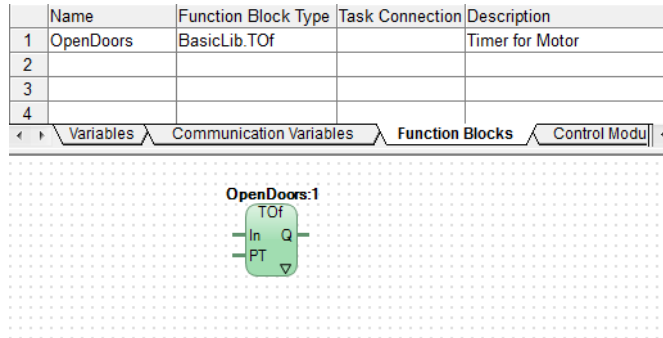

Figure 37. Declare TOf Function Block Type in Motors_Doors page
5. Click **Insert**, and then click **Close**. **OpenDoors** function block is inserted as in the Figure 37.